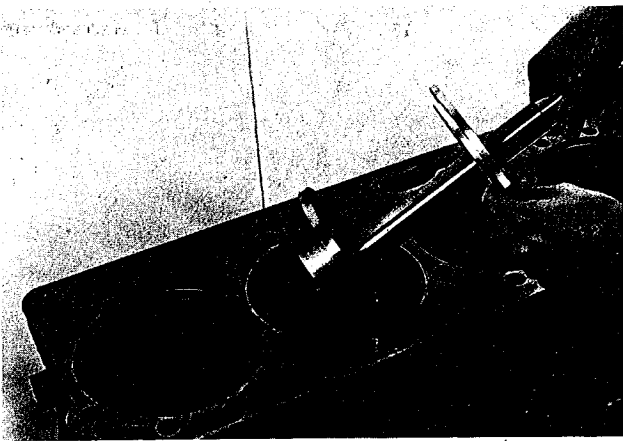

Fig. 8 Inserting Bushing Driver
4. Select proper guide plate and slide over driver shaft and into counterbore. See Fig. 8.